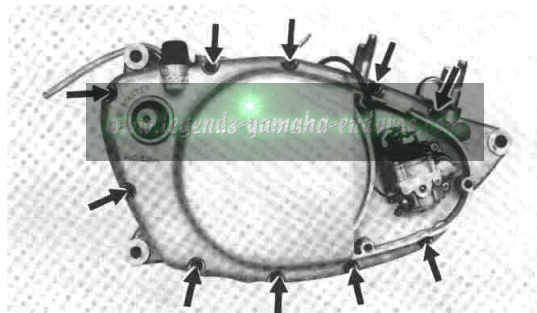

Fig. 3-3-7
Remove crankcase cover (right) holding bolts (10) and the cover. (Fig. 3-3-7)
Retirez les boulons (10) puis le couvercle droit de carter. (Fig. 3-3-7)